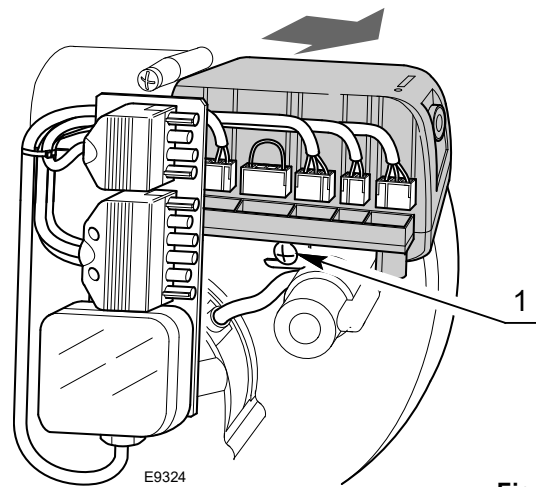

Fig. 17
- disconnect all the connectors connected to it, the 4-in plug, the 6-in plug, the high voltage cables, and the earth wire (TB);
- loosen the screw 1)(Fig. 17) and pull the flame control in the direction of the arrow.
- tighten screw 1)(Fig. 17) with a tightening torque of $1 \div 1.2$ Nm;